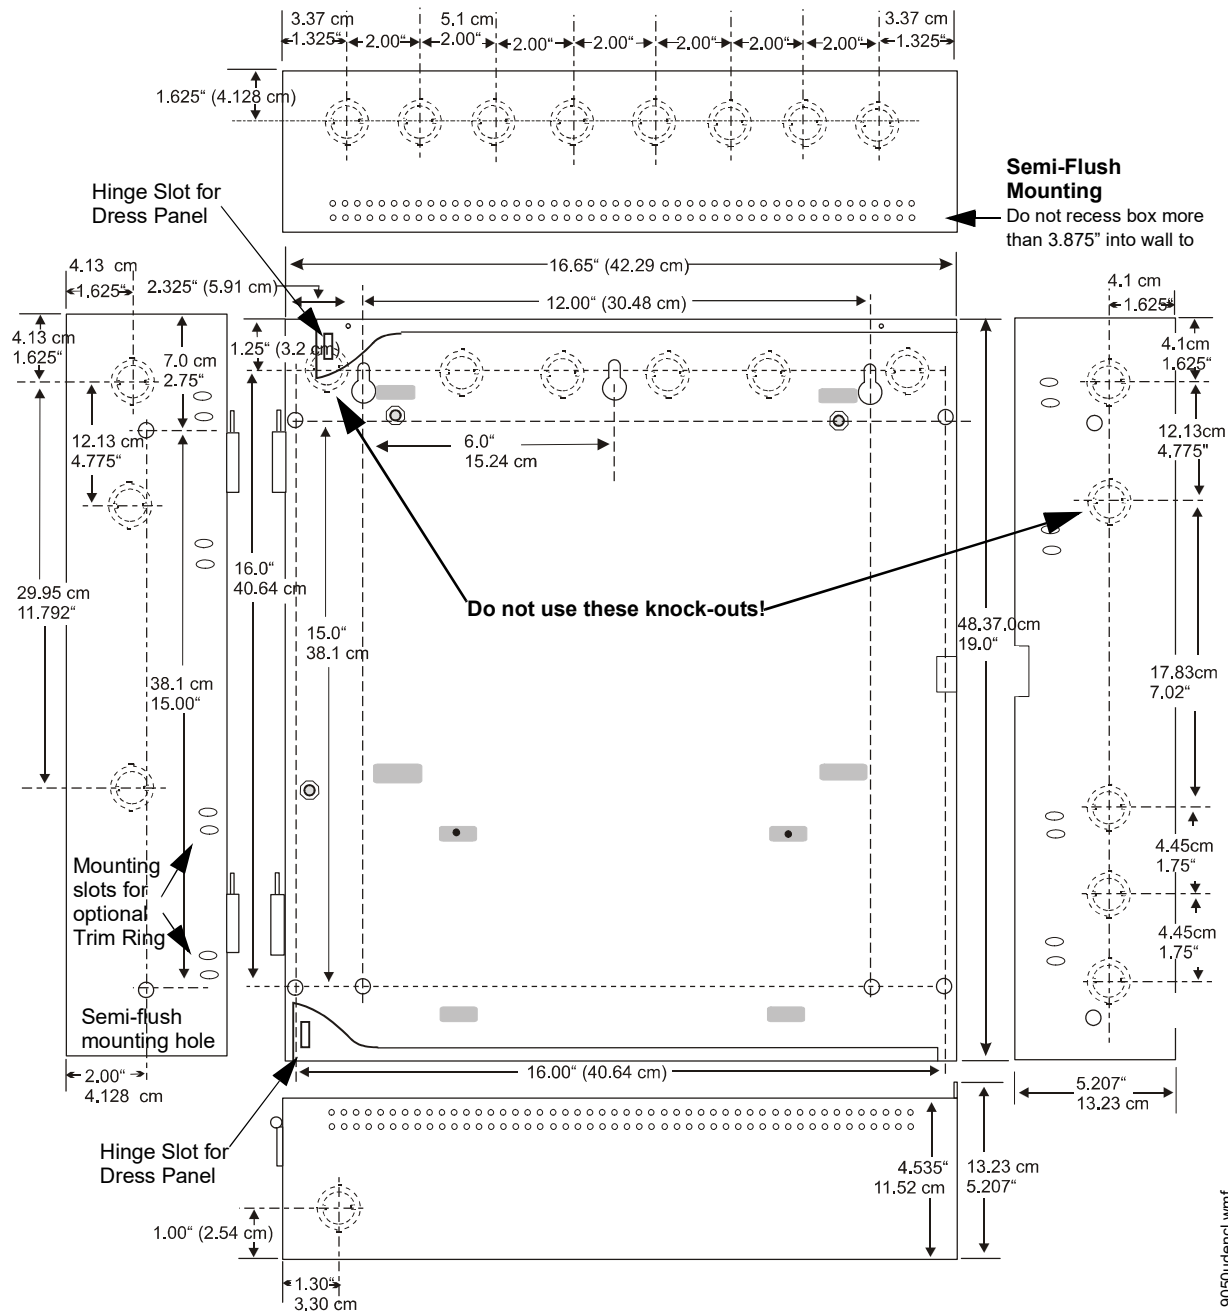

Figure 2.4 Cabinet Dimensions & Knockout Locations
Carefully unpack the system and check for shipping damage. Mount the cabinet in a clean, dry, vibration-free area where extreme temperatures are not encountered. The area should be readily accessible with sufficient room to easily install and maintain the panel. Locate the top of the cabinet approximately five feet above the floor with the hinge mounting on the left. Determine the number of conductors required for the devices to be installed. Sufficient knockouts are provided for wiring convenience. Select the appropriate knockout(s) and pull the required conductors into the box. Note that knockouts are also located on the back of the cabinet. All wiring should be in accordance with the National and/or Local codes for fire alarm systems. Refer to Figure 2.4 for knockouts that cannot be used.
1. Mark and predrill hole in the wall for the center top keyhole mounting bolt using the dimensions illustrated in Figure 2.4 on page 24.